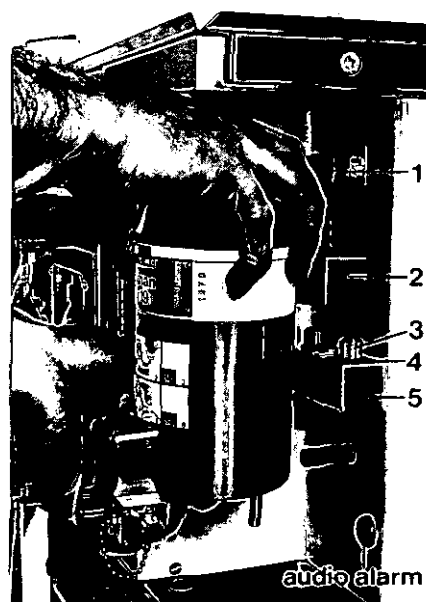

Fig. 12 Fitting Vapor
Vapor 19.1 or 19.3 (Fig. 12)
5.10 Vapor 19.1 or 19.3 (Fig. 12)